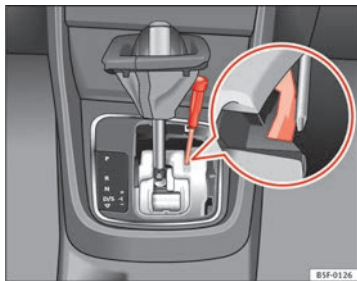

Fig. 93 Selector lever: manual release from position P
- Using a screwdriver, press and hold the yellow unlocking tab sideways ⇒ Fig. 93.
- Now press the interlock button on the selector lever (A) and move the selector lever to position N.